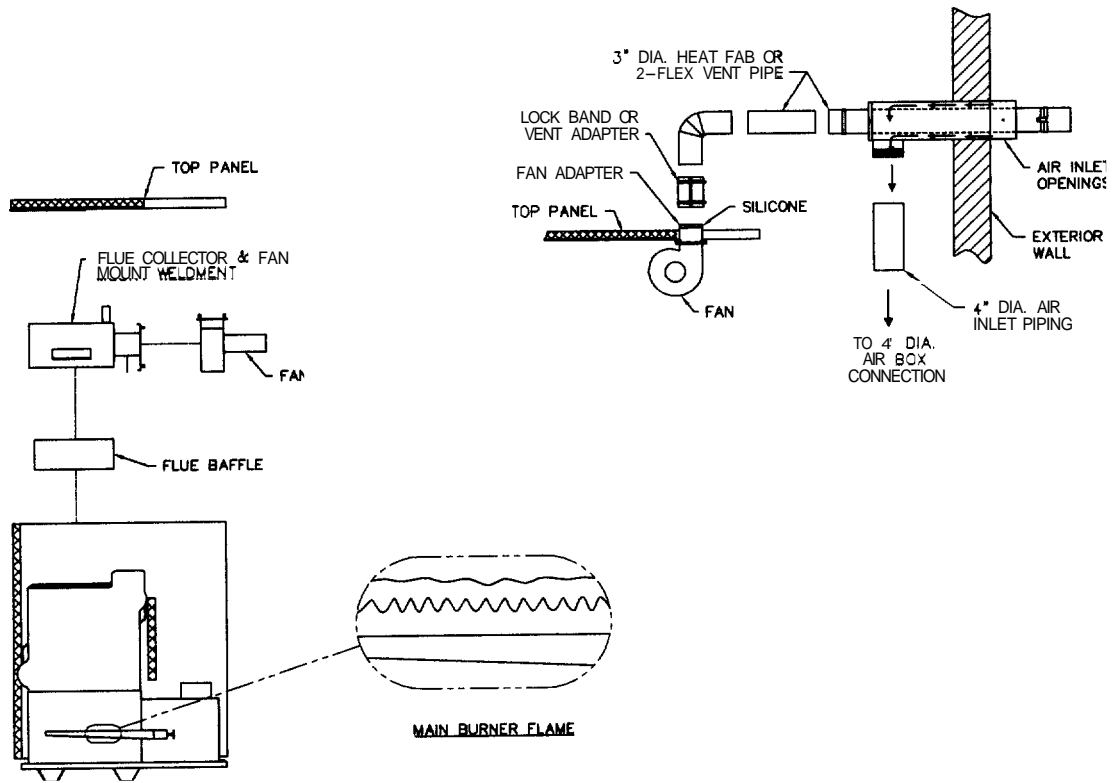

Figure 25: Inspection of Flueways, Burners, and Vent System.
1. Inspect flueways, burners and vent system. See Figure 25.
- w. Refer to Operating Instructions in Figure 25 to properly return the boiler to operation.